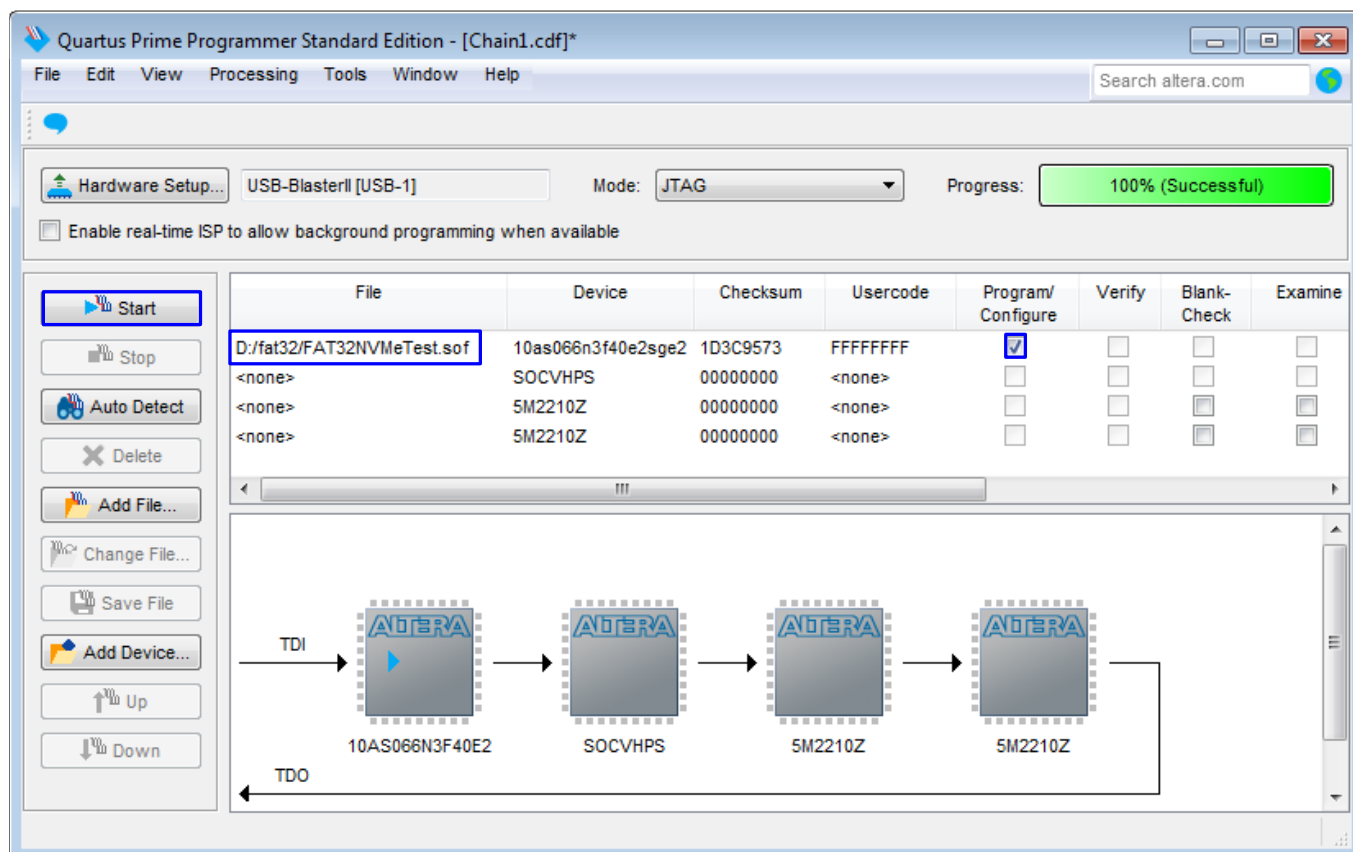

Figure 2-9 Programmed by QuartusII Programmer
- 1) Use QuartusII Programmer to program “FAT32NVMeTest.sof” file, as shown in Figure 2-9.